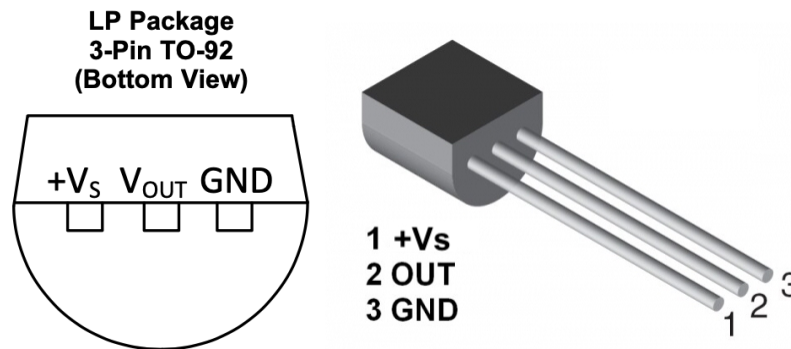

Figure 1: LM34 Pinout.
The pinout of the sensor in 3-pin TO92 package is shown in Figure 1. Note that Figure 1 shows the pinout in “**Bottom View**”.
**Warning:** Pay extra attention to the pinout of the LM34 sensor before using it in a circuit. Attaching wrong signals to the sensor pins may damage the sensor. Note that Figure 1 shows the pinout in “**Bottom View**”.